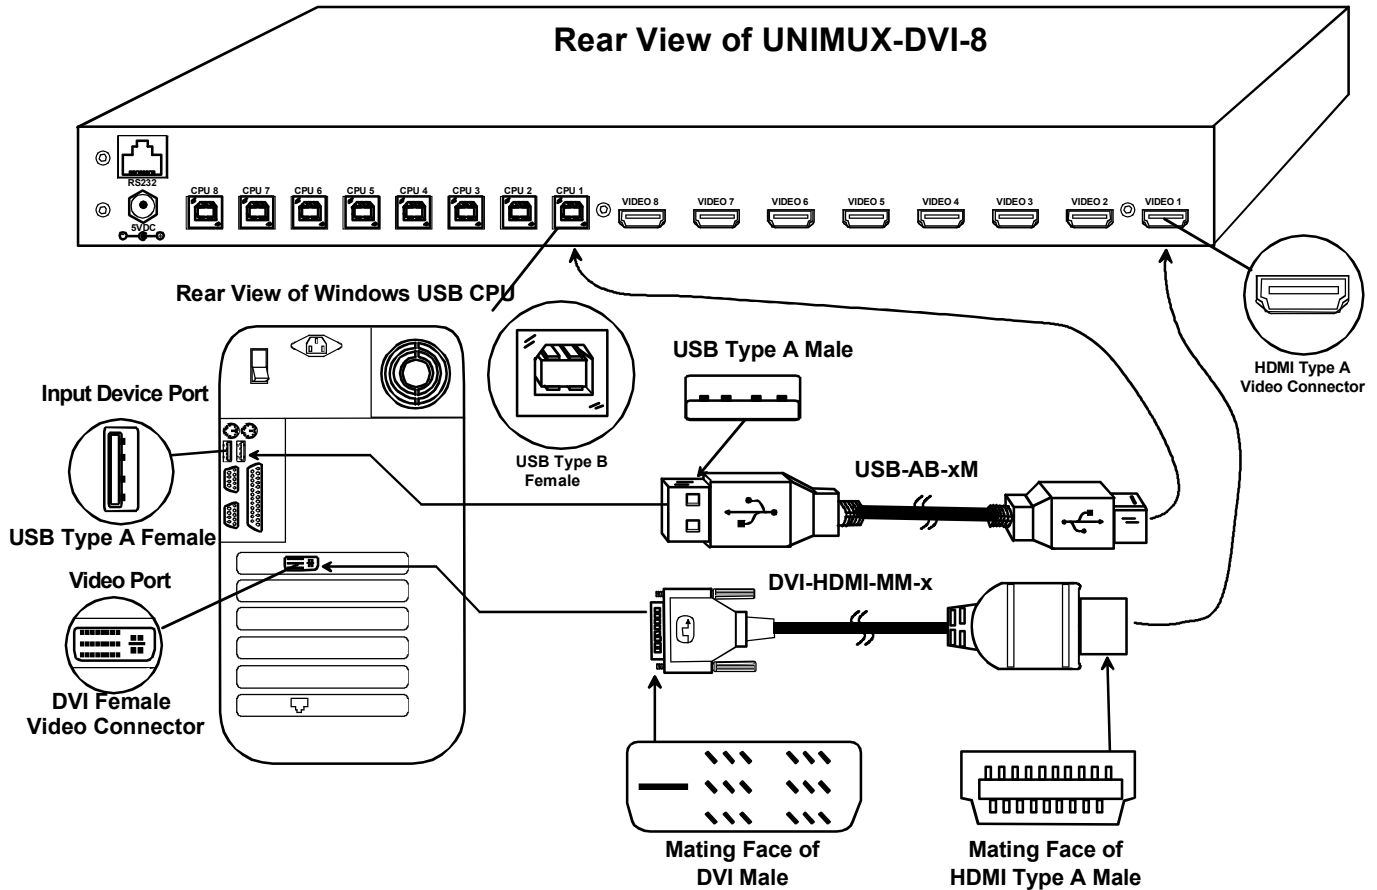

Figure 5- Connect each CPU
- Connect each CPU to the USB switch using a DVI-HDMI-MM-x (x=3, 6, 10, or 15 foot) cable for each video connection and a USB-AB-yM (y= .5, 1, 2, 3, or 5 meters) for each input device connection – REQUIRED (not supplied). (See Fig. 5 below.) Cables are available from NTI.